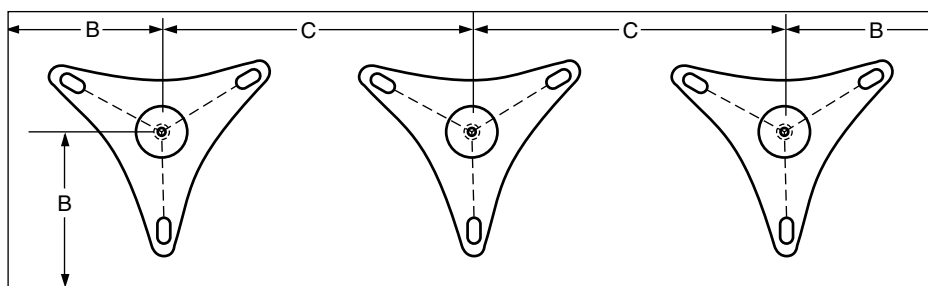

Figure 4.
Figure 4 illustrates an in-line mounting arrangement; the applicable values of “B” and “C” may be found in Table 5. Line and Earth terminal details are shown on Page 9, options 11 and 12. Figure 5 shows an outline drawing of the standard UltraSIL Housed VariSTAR Class 4 Arrester. The values for Dimensions “A” and “D” for all ratings are listed in Table 5.
1. Refer to Figure 4 for illustrations of dimensions B and C and Figure 5 for dimensions A and D.